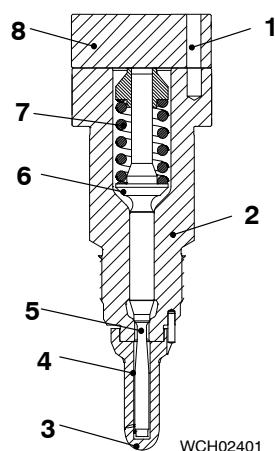

Fig. 6
- 9) Remove coupling nut (2) and nozzle body (1).
- 10) Use clean diesel oil, or clean kerosene to clean the needle (5, Fig. 6), tappet (6) and compression spring (7).
- 11) Use a clean, low-pressure air supply to dry the needle (5) tappet (6) and compression spring (7).
- 12) Put the needle (5) into the nozzle tip (3). Make sure that the the needle moves freely.
- 13) Put the tappet (5) and compression spring (7) in the nozzle body (2).
- 14) Attach the intermediate plate (8) to the nozzle body (2). Make sure that the dowel pin (1) engages in the hole in the nozzle body.